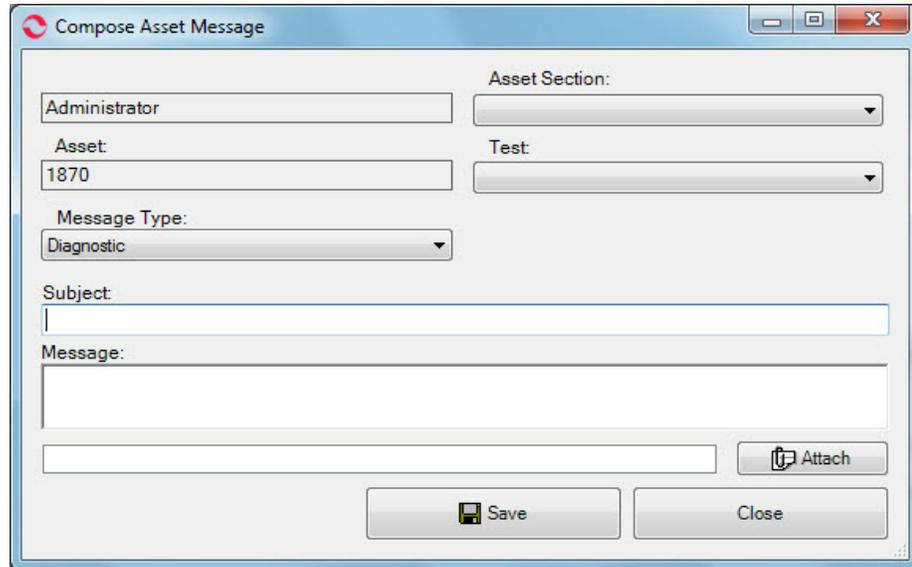

Figure 3-61: Compose Asset Message
3. The Compose Asset Message window, Figure 3-61, opens.